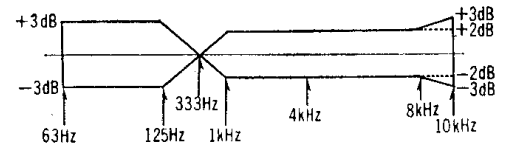

Figure 6
*Playback frequency response.* Connect VTVM to l.h. channel LINE OUT jack. Play back test tape. Adjust preset **VR1** for optimum response as shown in Figure 6. Repeat for r.h. channel, adjust by means of **VR2**.